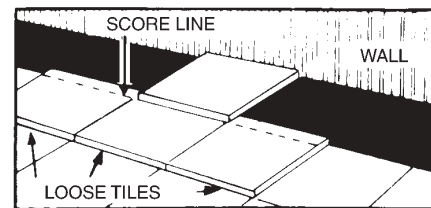

Figure 6 — Irregular cuts.
- **Irregular Shapes** — Make a pattern or template out of heavy paper or cardboard to fit to irregular shapes such as door trim, pipes, etc. (Figure 6). Trace the pattern onto the tile and cut with a utility knife or coping saw.